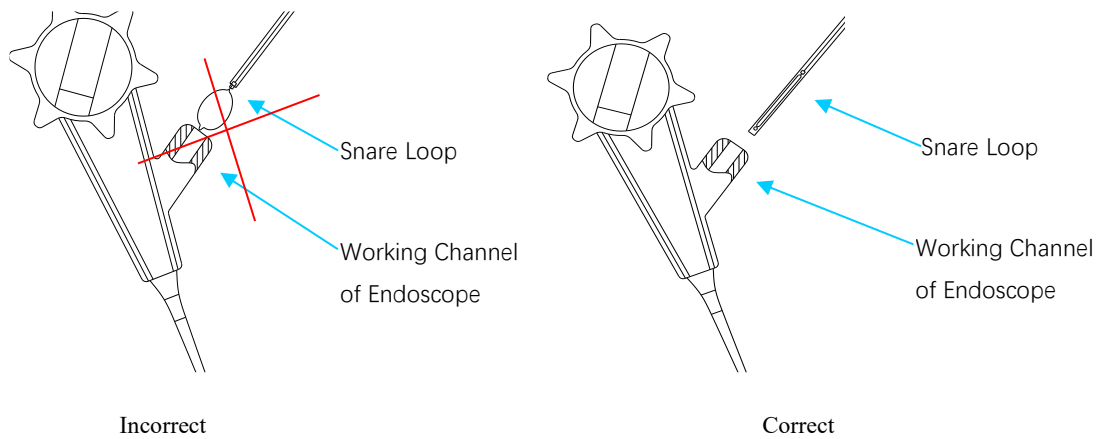
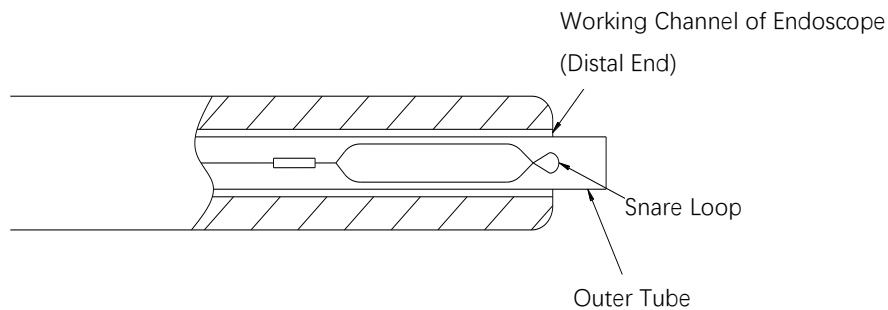

Figure. 2
Figure. 3
2. Operate the snare handle to pull the loop back into the outer tube (as shown in figure 2). The snare enters the digestive tract through the endoscopic channel hole. Under the endoscopic monitoring, the outer tube should be guaranteed to leak out of the distal end of the endoscopic channel (as shown in figure 3) :